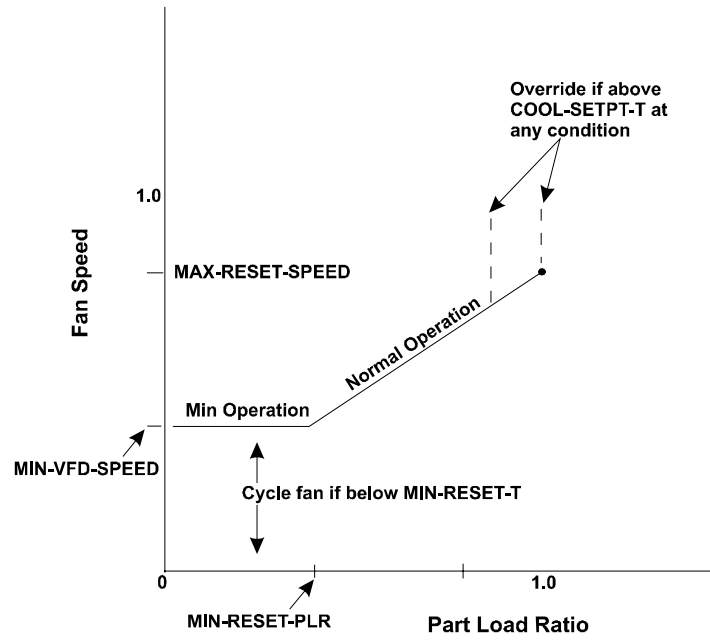

Figure 31 Heat-rejection load reset
The LOAD-RESET tower keywords are illustrated in Figure 31 and are as follows:
The minimum tower part load ratio below which a variable-speed tower fan is no longer modulated. Below this fraction, the fan speed is held constant at MIN-VFD-SPEED. This keyword allows you to investigate control sequence (3), above. This keyword is ignored for all control schemes other than LOAD-RESET. See Figure 31.
The minimum speed ratio below which the tower fan variable frequency drive should never operate. For control sequences other than LOAD-RESET, this keyword specifies the "critical speed" below which the tower fan should not operate. For the LOAD-RESET sequence, this keyword specifies the speed at which the fan will operate when the tower load is at MIN-RESET-PLR. The default is 0.4 except for dry coolers, where it is 0.2. See Figure 31.
The maximum speed ratio of a variable-speed tower fan during LOAD-RESET. The fan speed will not exceed this value, regardless of load, unless the tower temperature exceeds the CIRCULATION-LOOP's COOL-SETPT-T. If the tower temperature floats above the setpoint, then control reverts to FIXED for that hour, the fans are controlled to maintain the setpoint, and this keyword is ignored. The default is 0.8, which means that the fans will operate at 80% speed when the load is 100% of design, unless the COOL-SETPT-T is exceeded. See Figure 31.